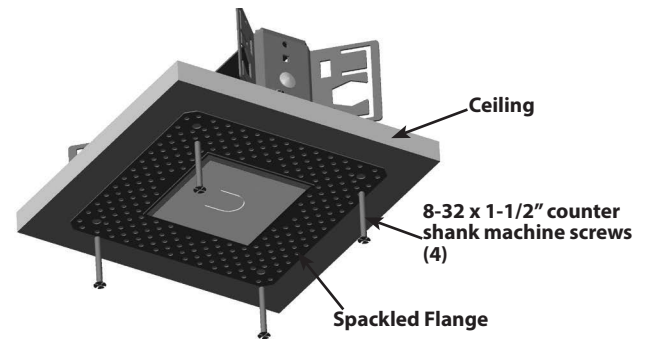

Fig: 3
1. Place **Spackle Flange** on ceiling and align the opening with the ceiling cutout. Carefully mark the (4) hole pattern on ceiling and remove **Spackle Flange**.
2. For New Construction (Fig: 3): Use a 7/32" drill bit to drill ceiling typical 5/8" ceiling depth. Align rib of **Spackle Flange** to rib in **Rough-in**. Insert the **Spackle Flange** and secure with 8-32 x 1-1/2" flat head counter shank machine screws. **NOTE: DO NOT DRILL HOLES DEEPER THAN THE CEILING THICKNESS.**